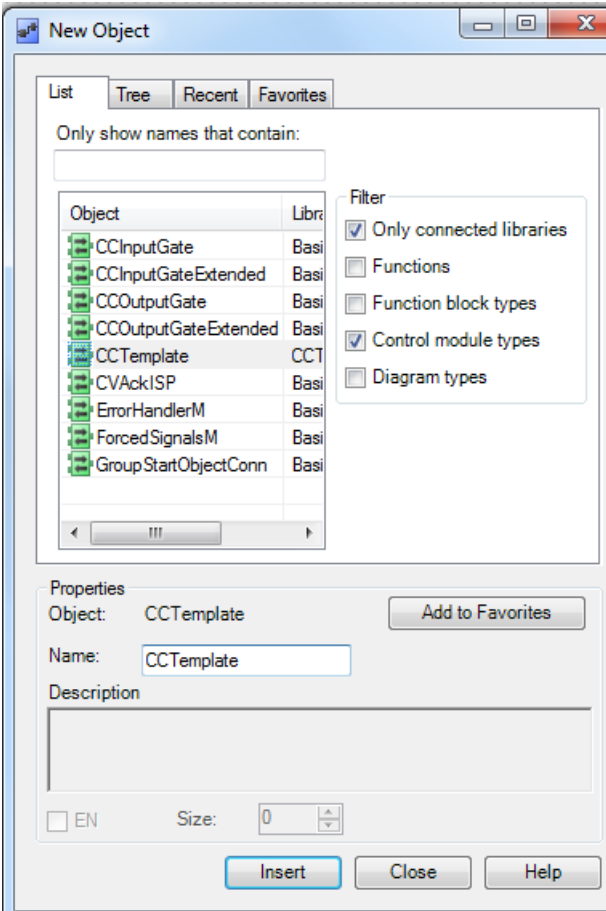

Figure 37. New Object dialog box
- b. In the New Object dialog box, select **CCTemplate** under the List tab. In the Name field, enter the name of the instance as *CCTemplate* (see Figure 37)